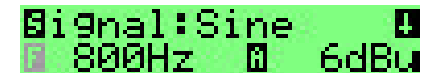

Fig 7 Selectable items
- Each time you press the MODE-key you will move to the next selectable item. The currently selected item is indicated by a flashing, inverted first character. In Fig 7 the letter  is selected, represented graphically by gray color.